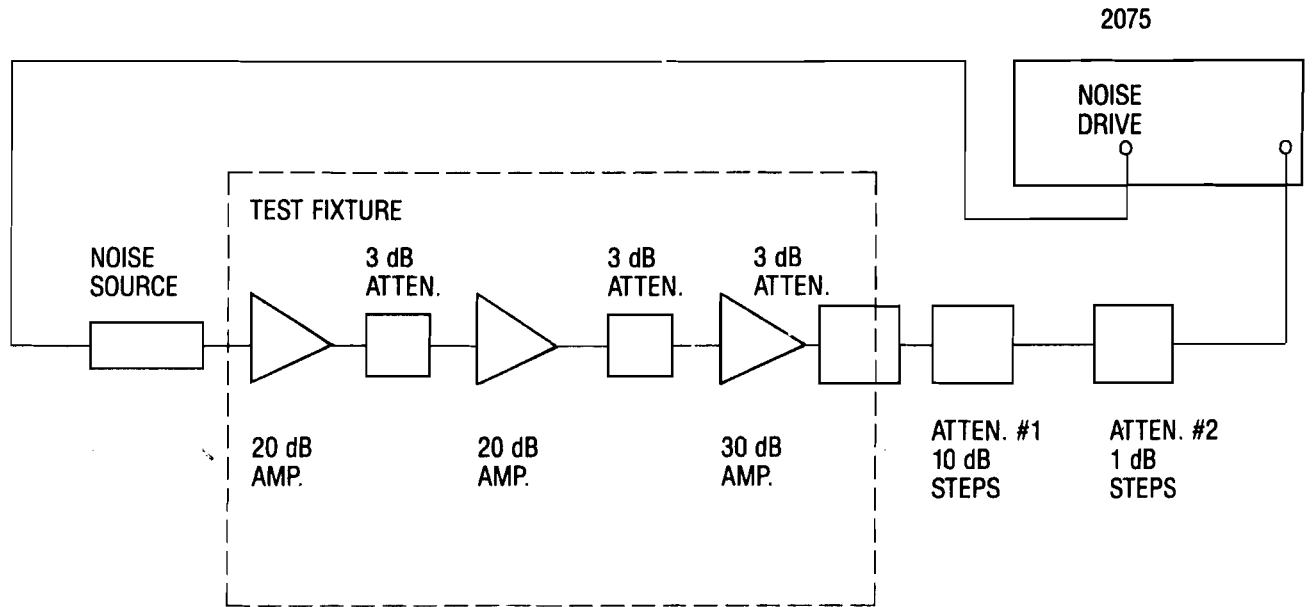

Figure 3-22. GAIN MEASUREMENT RANGE AND LINEARITY SETUP
8. Insert the amplifiers and attenuators between the noise source and the 2075 as shown in Figure 3-22.